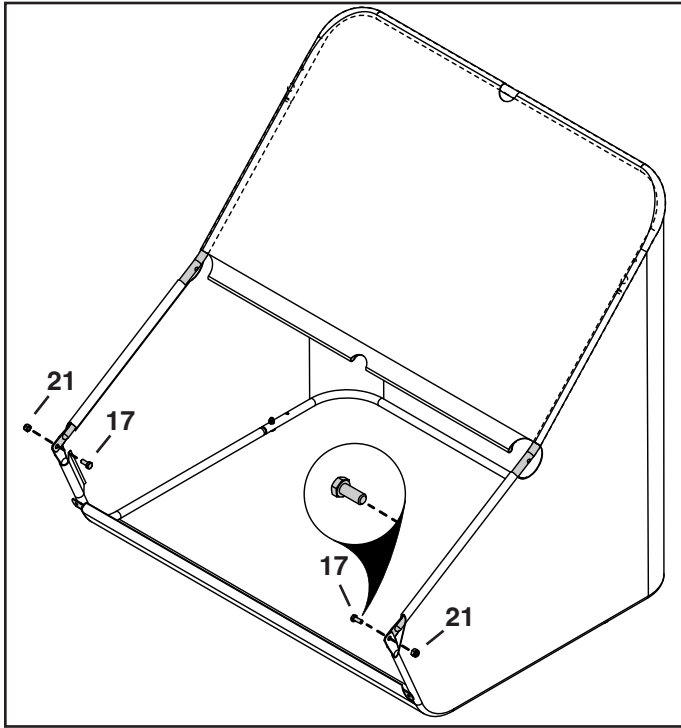

FIGURE 13
**STEP 13: (SEE FIGURE 13)**
1. Secure the top and bottom hopper tubes together using two 5/16" x 3/4" hex bolts (17) on inside and two 5/16" nylock nuts (21) outside.